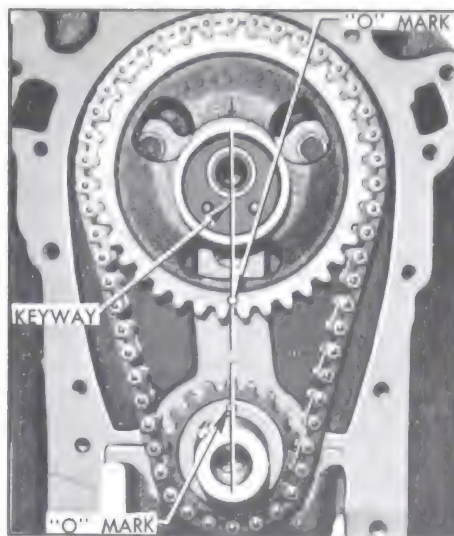

Figure 2-33—Timing Chain and Sprockets Properly Installed
4. If there has been doubt about the valve timing, turn crankshaft until the camshaft sprocket keyway is straight down toward the crankshaft and the "0" timing marks on both sprockets are toward each other and in line with shaft centers. See Figure 2-33.
7. When ready to install timing chain, turn crankshaft until Nos. 1 and 4 pistons are on top dead center. Turn camshaft so that the sprocket key points straight down toward crankshaft. See Figure 2-33.
8. Place timing chain over the camshaft and crankshaft sprockets so that the "0" marks stamped on front faces of sprockets are nearest each other and aligned between the sprocket hubs. Install sprockets with chain on the two shafts. See Figure 2-33.